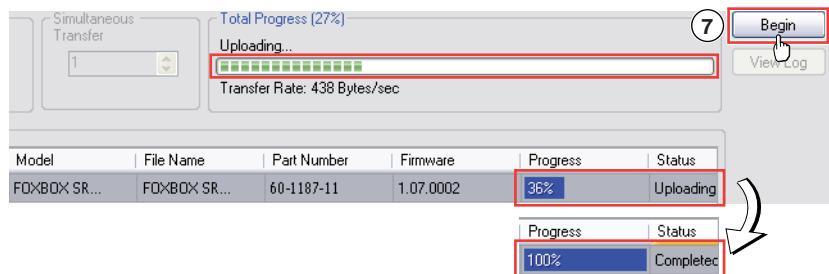

Figure 33. Firmware Loader Screen
- 7.** In the Firmware Loader window, click **Begin** (see figure 33).